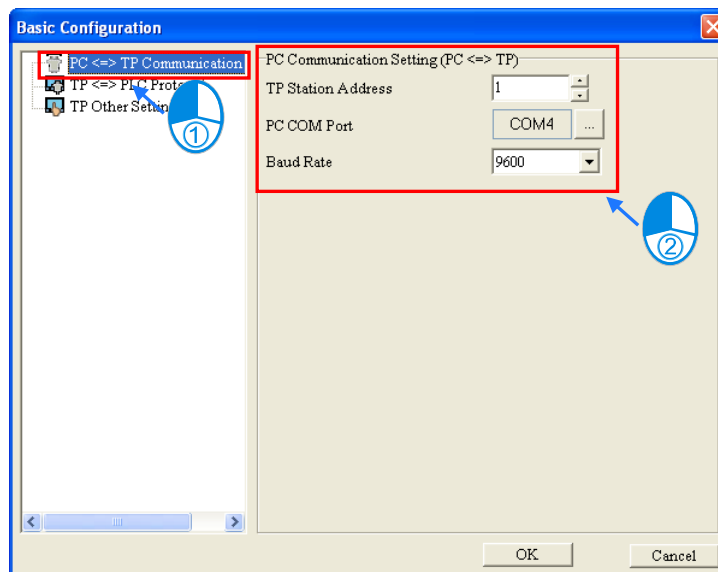

Figure 3-13 Basic Configuration window
**Basic Configuration** on the **Tool** menu is used to set the text panel used. Users can set **PC<=>TP Communication Setting**, **TP<=>PLC Protocol**, and **TP Other Setting**. The items which can be set vary with the model used. After the users click **Basic Configuration** on the **Tool** menu, the **Basic Configuration** window will appear, as shown in Figure 3-13.
- **PC<=>TP Communication Setting:** Users can set the communication between a TP series text panel and the computer. The value in the **TP Station Address** box is in the range of 0 to 255, and must be the same as the station address of the TP series text panel used. The communication port in the **PC COM Port** box is the communication port connected to the computer. The value in the **Baud Rate** drop-down list box is in the range of 9600 to 115200. Please see Figure 3-13.